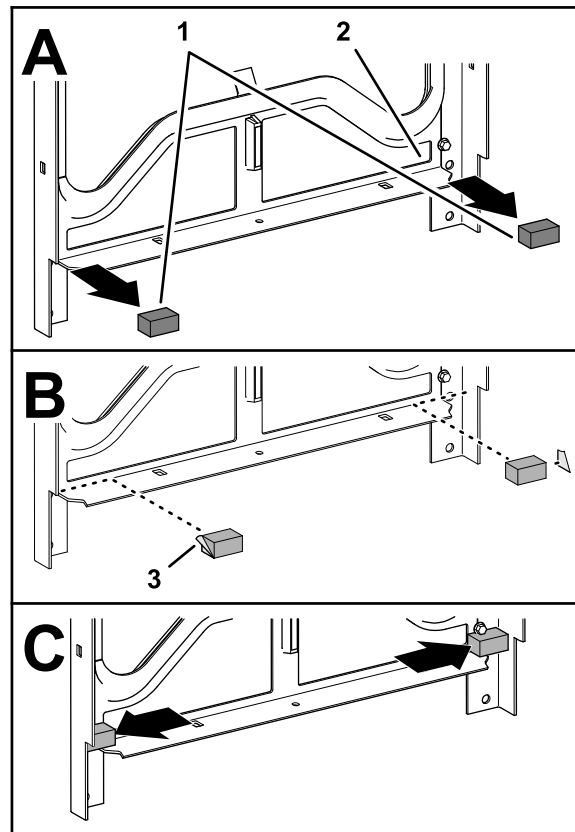

Figure 25
- Remove the 2 foam seals at the lower, inside corners of the mounting frame (Figure 25).
2. Clean the surface of the frame where you removed the seals (Figure 25).
3. Remove the backing from the new foam seals (Figure 25).
4. Assemble the foam seals as shown in Figure 25.